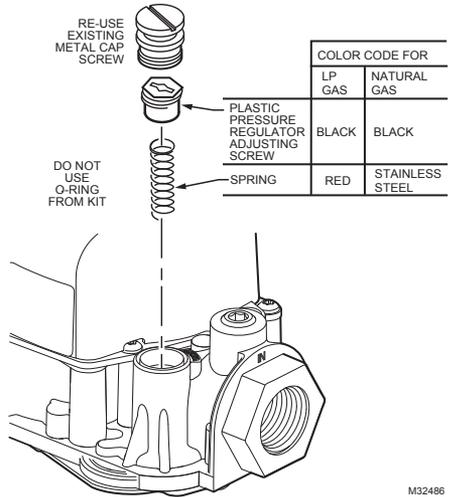

Fig. 5. Conversion kit installation in VR8205S, T and VR8215S, T series gas valves.
4. Insert the replacement spring. Refer to Fig. 5.